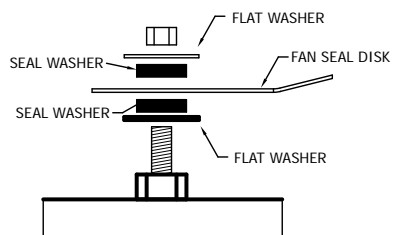

Figure 31. Replace Seal Disk
8. Replace fan seal disk, and tighten bolts until rubber seal washer compress to the diameter of the flat washers (**Figure 31**).